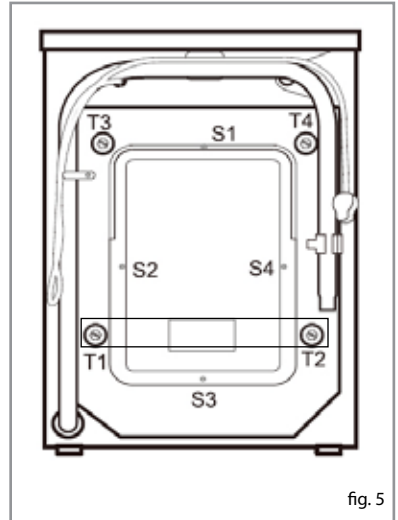

fig. 5
- Loosen the transit bolts (T1, T2, T3 & T4 in fig. 5) using a suitable spanner by turning them anti-clockwise and then remove them.